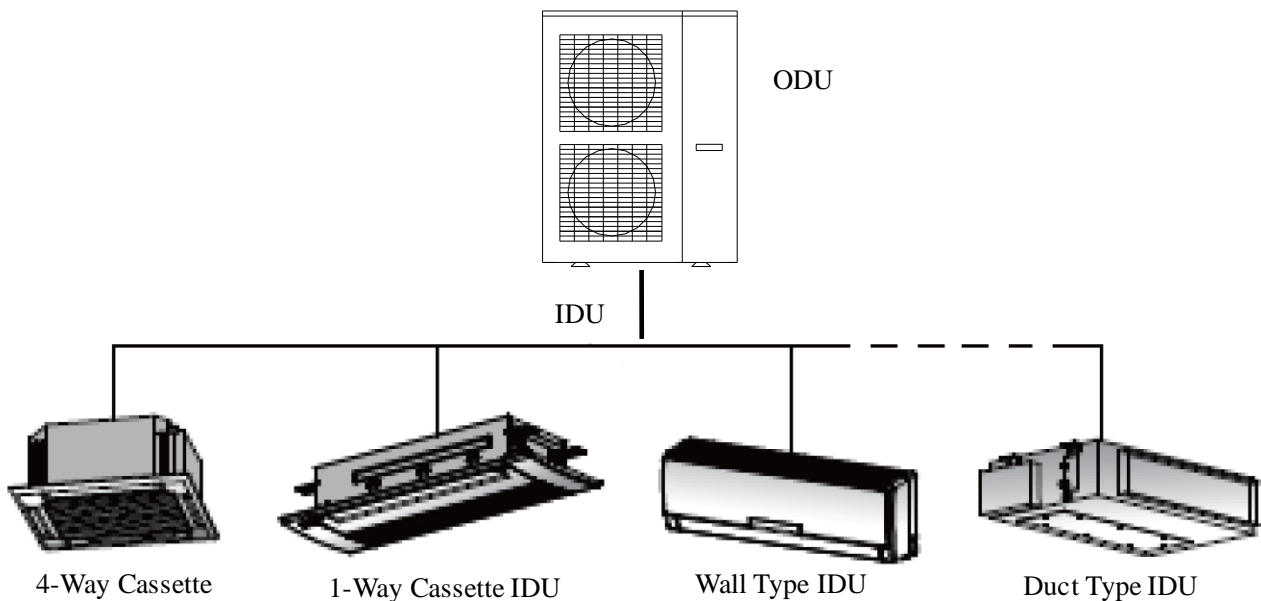

Fig.1 Outdoor unit and indoor unit combination
(3) As shown in Fig.1, the outdoor unit can be connected to different type of indoor units including 4-way Cassette IDU, 1-Way Cassette IDU, Wall Type IDU and Duct Type IDU. If one indoor unit is turned on, the outdoor unit will start and deliver the required cooling capacity to the indoor unit. If all the indoor units are turned off, the outdoor unit will be stopped.